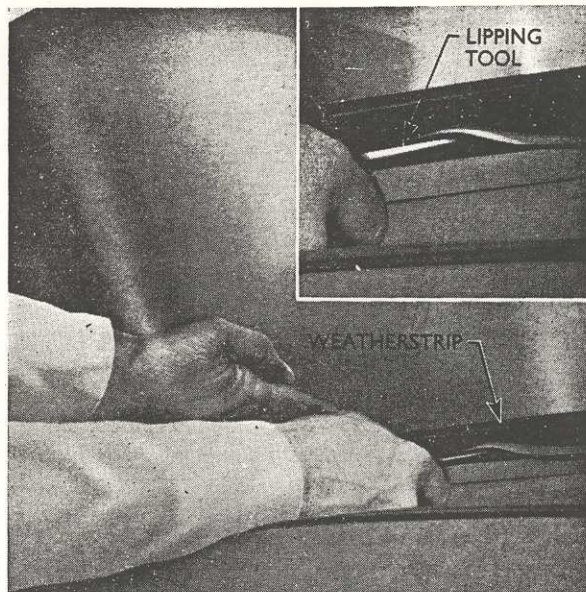

Fig. 3
6. Allow the glass and weatherstrip to rest against the body aperture and then by means of a suitable lipping tool (a medium-sized screwdriver with all sharp edges removed (see Fig. 3), lift the inner lip of the weatherstrip over the body flange working from inside the car, taking care not to damage the weatherstrip and at the same time applying a light pressure to the glass from the outside.